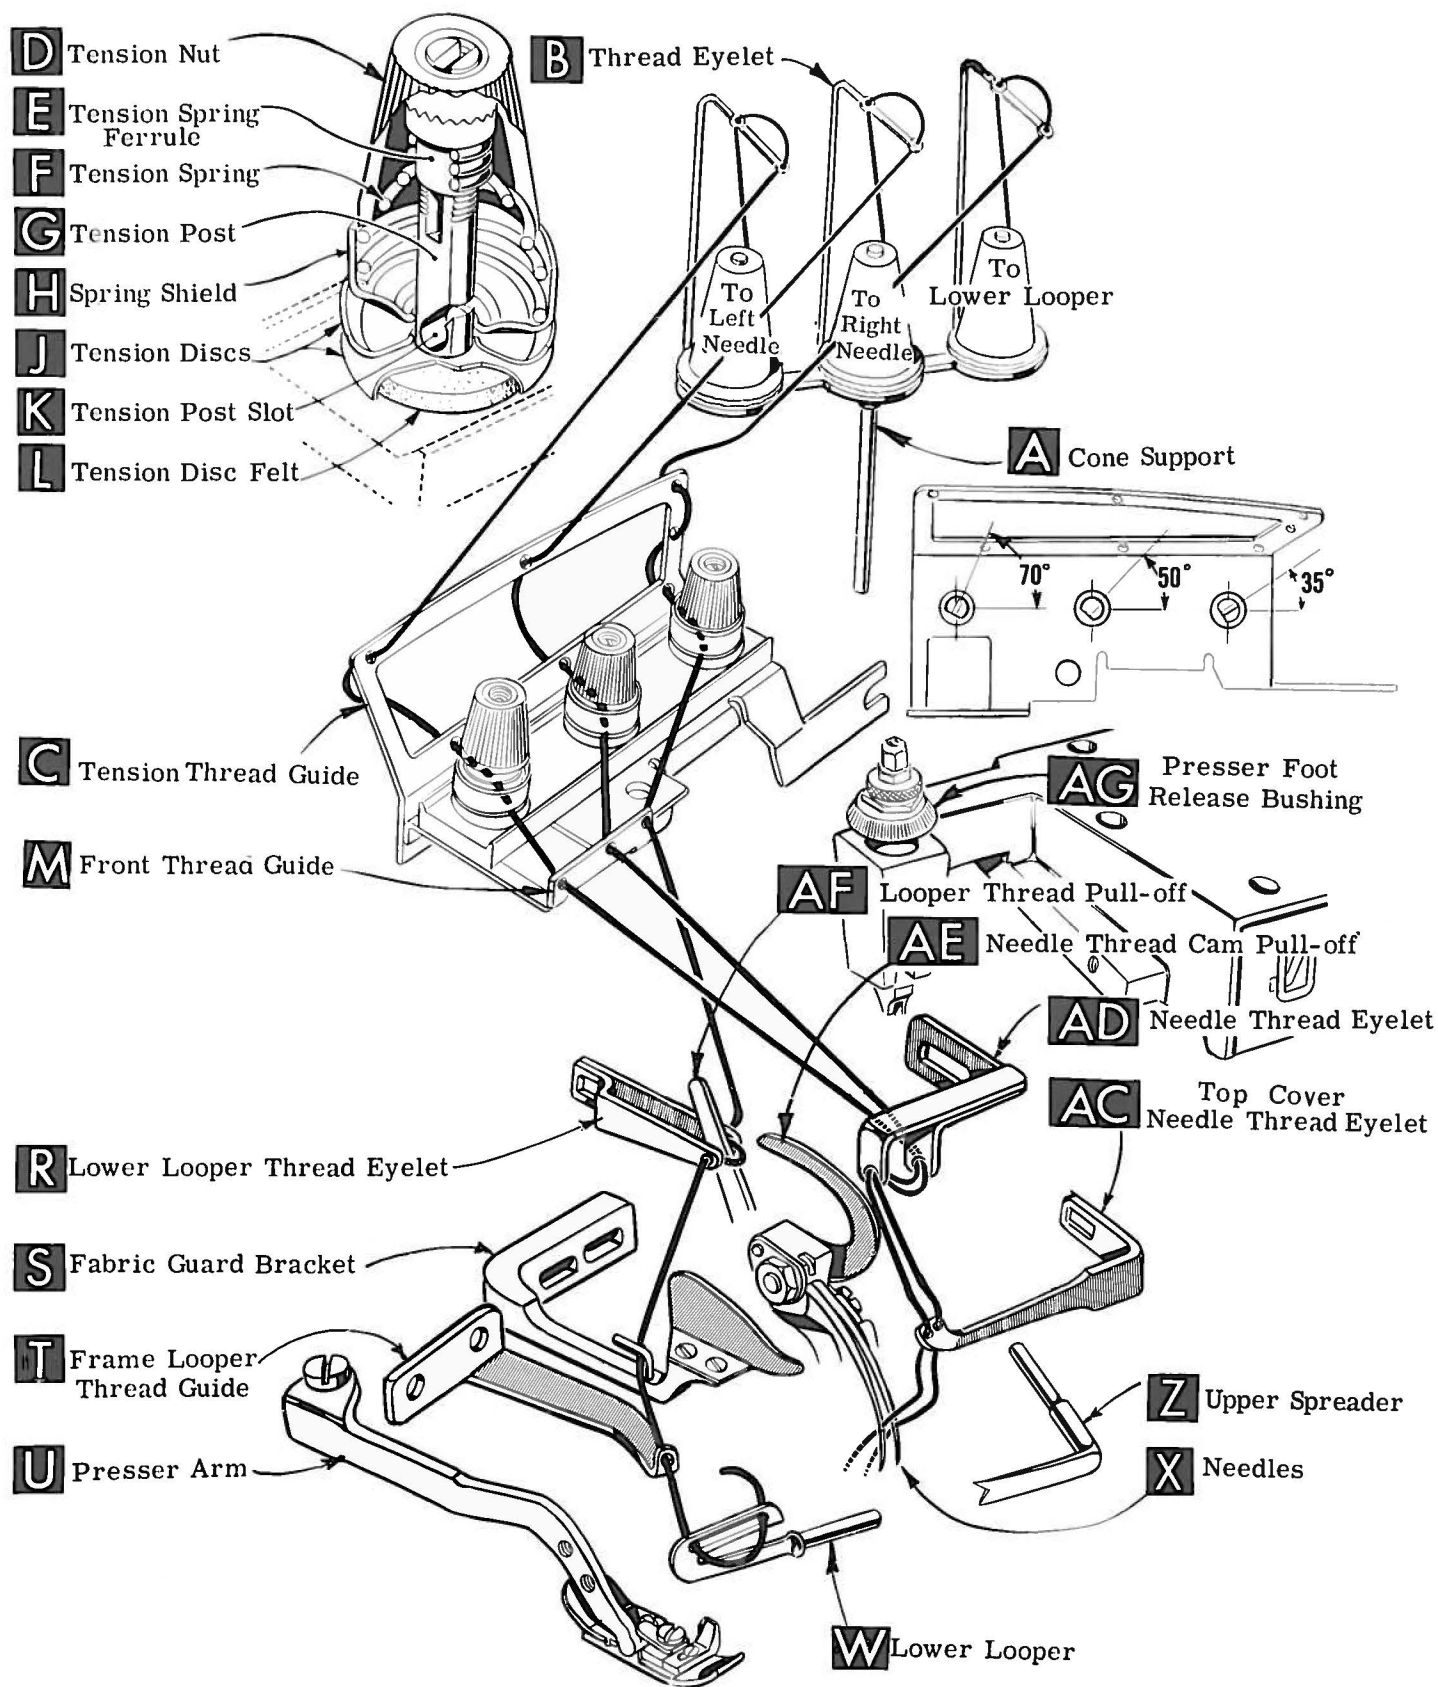

Fig. 1
Release pressure on presser foot by turning presser foot release bushing (AG, Fig. 1) and swing presser arm (U) out of position. Turn handwheel in operating direction until needles are at their lowest point of travel. Using hexagonal socket wrench No. 21388 AU, furnished with machine, loosen needle clamp nut about 1/4 turn. Again turn handwheel until needles are at high position. Withdraw needles.
After thread comes from cones on cone support (A, Fig. 1) it is brought up through the back hole of thread eyelet (B), then down through the front hole of thread eyelet.
Now, the left and right needle threads are threaded through the upper holes (left and middle respectively) of tension thread guide (C, Fig. 1) from front to back. Then through the lower holes from back to front.
Only parts involved in threading are shown in threading diagram (Fig. 1). Parts are placed in their relative positions for clarity.
Be sure threads, as they come from the tension thread guide (C) are between tension discs (J) and in diagonal slot (K) in tension post (G). The tension posts should be positioned so the tension post slot will be at the approximate angle for the different threads as indicated in Fig. 1.
Double end of thread and lead it through both eyes of lower looper thread eyelet (R, Fig. 1) from right to left. NOTE: thread must pass in front of looper thread pull-off (AF). Lead thread behind fabric guard (S) and through eyelet hole of frame looper thread guide (T). Turn handwheel in operating direction until heel of lower looper (V) is all the way to the left; then thread through both eyes from left to right. Left eye of lower looper can be threaded easily if tweezers are in left hand.
The amount of tension of needle and looper threads is regulated by three tension nuts (D, Fig. 1). Tension on threads should be only enough to secure proper stitch formation.
Be sure machine is threaded according to diagram for your style of machine (Fig. 1). With thread tensions light, set lower looper thread eyelet (R, Fig. 1) about horizontal and back in its front to back location. Operate machine slowly, without presser foot in place, to make sure that chain forms and moves off the tongue freely. Swing presser foot into position, insert material, and sew slowly.
While sewing on material, check needle thread control as follows: Usually, all needle threads are drawn from cones on needle down stroke. At top of stroke, thread should be just tight enough to feed chain off throat plate stitch tongue. With needle at bottom of stroke, position needle thread eyelet (AD, Fig. 1) so that needle thread cam pull-off (AE) just contacts needle thread. The eyelet (AD) is adjusted correctly in its front to back position when the desired stitch is obtained with the least amount of needle thread tension when sewing over the complete speed range.
During needle down stroke, forward stroke of looper thread pull-off (AF, Fig. 1) will draw lower looper thread through the tension. When normal amount of looper thread is drawn, lower looper thread will have almost all slack taken up as looper thread pull-off reaches its most rearward position.
If lower looper thread has a loose appearance in the seam, move lower looper thread eyelet (R, Fig. 1) forward and raise slightly. If, however, the eyelet is raised too high and moved too far forward, the looper thread will tend to break excessively--even with a minimum amount of looper thread tension applied.
Raising and bringing the lower looper thread eyelet (R, Fig. 1) forward causes less thread to be pulled from the cones as the looper travels to the top of its stroke and causes the purl to form more on the top of the edge. If the eyelet is raised and brought too far forward, however, the thread becomes too tight, resulting in looper thread breakage. With a reasonable amount of looper thread tension to insure a flexible chain, the lower looper thread eyelet should be adjusted to position the purl as desired.